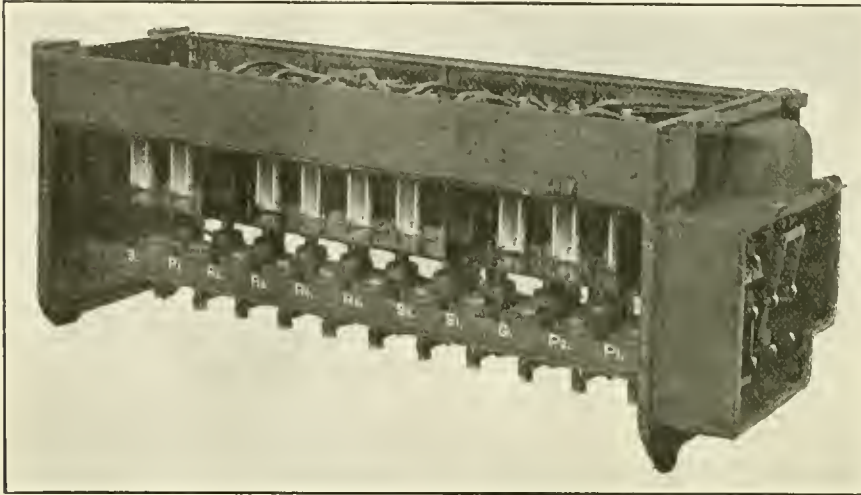
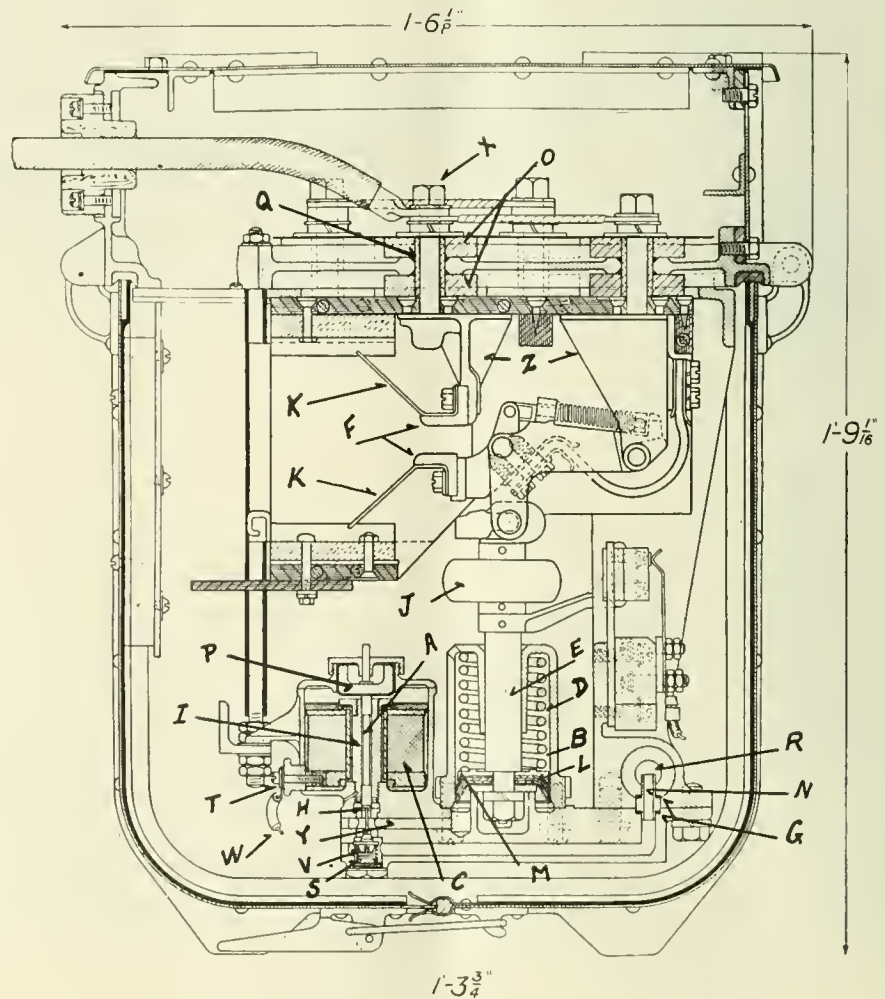
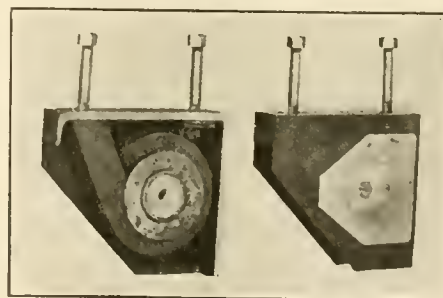

FIG. 11. SWITCH GROUP COMPOSED OF ELEVEN ELECTRO-PNEUMATIC UNITS.
FIG. 12. CROSS SECTION DRAWING OF THE SWITCH GROUP.
FIG. 14. BLOW-OUT COIL.
A. The battery power is connected to a piece of apparatus known as the master controller. This master controller is located adjacent to the air brake valves and provides the means for connecting the battery current to a system of control wires which run from the master controller to the unit switches. The energizing of a control wire operates a small air valve allowing the air pressure to enter a cylinder moving the piston and thereby closing the switch. The power from the main circuit is connected to the switch so that the closing of the switch throws the power on to the motors. These unit switches are grouped together in numbers varying anywhere from 6 to 12 or even more. The group of switches is called a "switch group." Fig. 11 shows a switch group made up of 11 switches. Each of these 11 switches is a unit and is interchangeable.
A. A cross section through one of these switch units is shown by Fig. 12. The air is piped into the end of the group and supplies air at 70 pounds pressure to the small reservoir "R" running the whole length of the group. Each of the cylinder
A. Referring to Fig. 11, the cables are shown on the top of the group. These cables enter through the side as shown in the sectional view Fig. 12 and the terminals soldered to the ends are bolted down by the studs "X." These studs pass through the top framework of the group, being insulated therefrom by means of insulated washers "O" and tube "Q" and screw into the copper casting "Z" to which are bolted the copper contacts "F." The main current, as can be seen, enters and leaves the top of the group and the main circuits are entirely independent of the control circuits. In order to insulate the current from the control apparatus an insulator "J" is placed in the piston "E" so that the power flowing through the contacts "F" is entirely eliminated from the rest of the apparatus.
A. Referring to Fig. 11, it is noted that there are spaces between each of the switches. This space is not vacant, but is occupied by a blow-out coil Fig. 14. The blow-out coil consists of a few turns of copper strap and the connection to it is made by the studs as shown in the figure. The arrangement of main circuits is such that the current flows through these blow-out coils before it passes through the switches, so that when the contacts open and an arc is formed current is still passing through these blow-out coils and a magnetic action is set up which extinguishes the arc. The coils are close to the contacts on either side and a strong magnetic field exists at right angles to the contacts. The arc formed when the contacts open (the arc is a current flowing through the air) takes place in a magnetic field and, according to the laws of magnetism and electricity, moves at right angles to this field. The arc is, in other words, blown out magnetically, and this is one of the fundamental principles of this design and the reason for its great success. The time taken to blow out this arc is almost instantaneous.